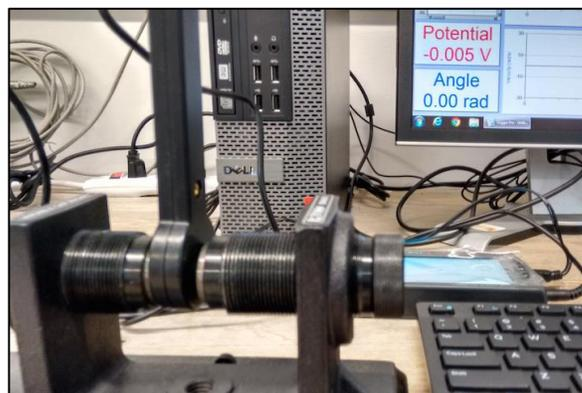

Fig. 5. Initial position of the wand before recording the data. Note the Angle registered as zero in Logger Pro software.
6. Now you are ready for measurement. Click 'Collect' in the menu bar. **Do not move the wand yet!** Once you see the green "collect" button on the menu bar turned into red "stop" and the Angle reading is zero on the screen, (see Fig. 5), rotate the wand to an angle (For example  $\theta_i = 0.4$  rad) and let it go. Click 'STOP' after a few swings. You should get two graphs, one for voltage versus time and another for angular position versus time. If necessary, adjust the scales for proper viewing of the graphs.
(see Fig. 5), rotate the wand to an initial angle. (For example  $\theta_i = 0.4$  rad) and let it go. Click 'Stop' after it has swung to the other side.